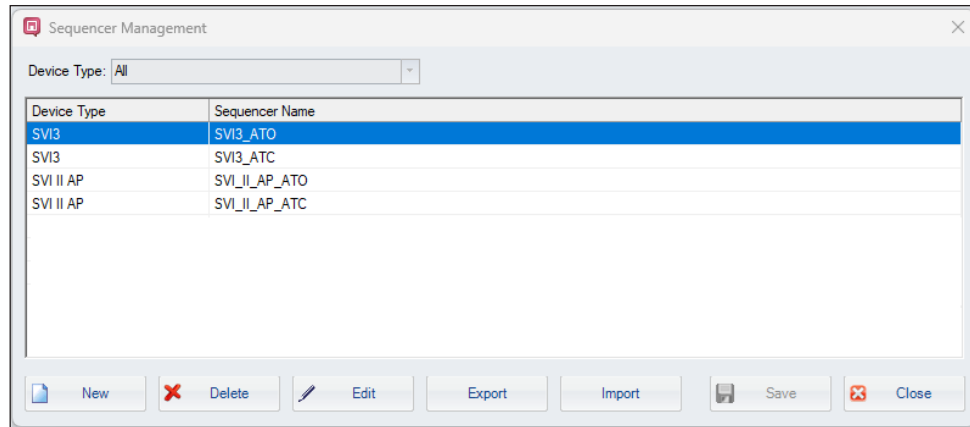

Figure 100 - Sequencer Management
1. Select **Tools > Sequencer Settings > Sequencer Management** and Figure100 appears.
1. Select **Tools > Sequencer Settings > Sequencer Management** and Figure 100 appears.